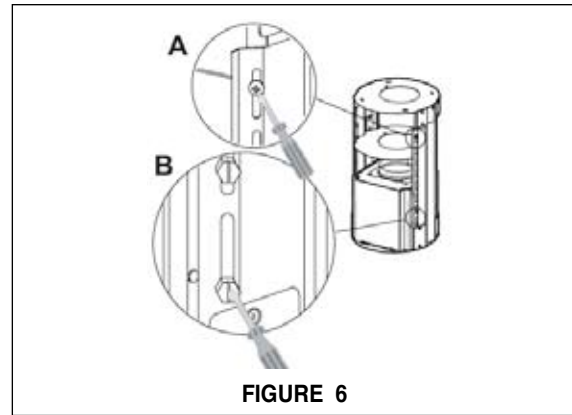

FIGURE 6
1. Unscrew the upper chimney screws to separate the chimney from the frame. Unscrew the 4 screws at the top inside the frame at the separation point between the upper and lower frames. Unscrew the 8 screws that connect both frames. Lengthen the frame in order to fit all the connection pieces for ductless installations, see (**FIGURE 6**)